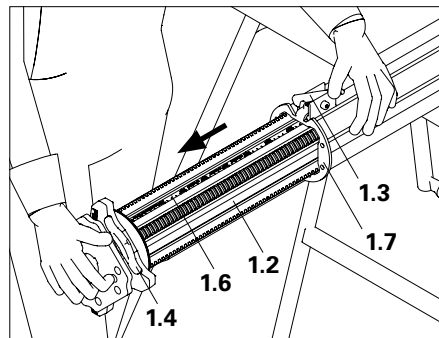

Fig. A1.01a
1. Press safety hook. (1.3). The adjusting collar (1.4) is disconnected. (Fig. A1.01a)
2. Extend inner tube (1.2) over the required prop length. (Fig. A1.01a + A1.01b)